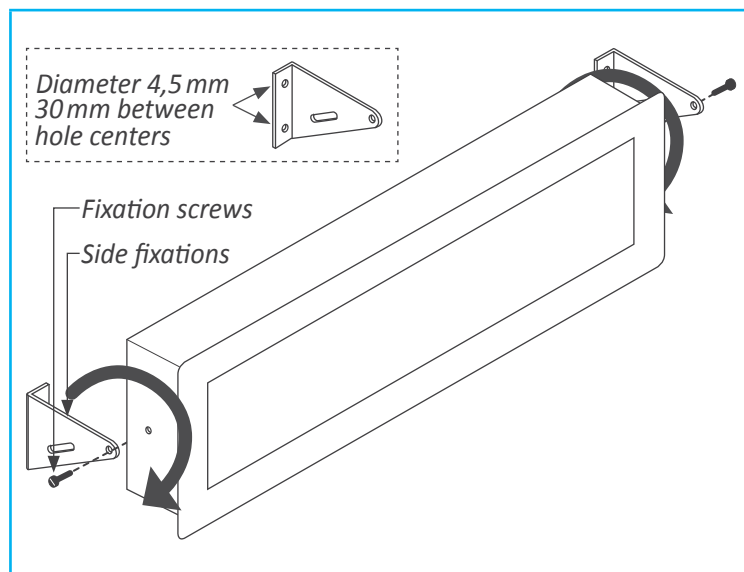

Figure 14 - Wall mount
- Wall mount. Mount the side fixations against the wall, as shown (see Figure 14). Each fixation has 2 holes with 4,5 mm diameter and a separation between hole centers of 30 mm. Once the side fixations are secured against the wall, place the instrument and press the fixation screws slightly. Tilt the instrument to the desired viewing angle and firmly screw the fixation screws.